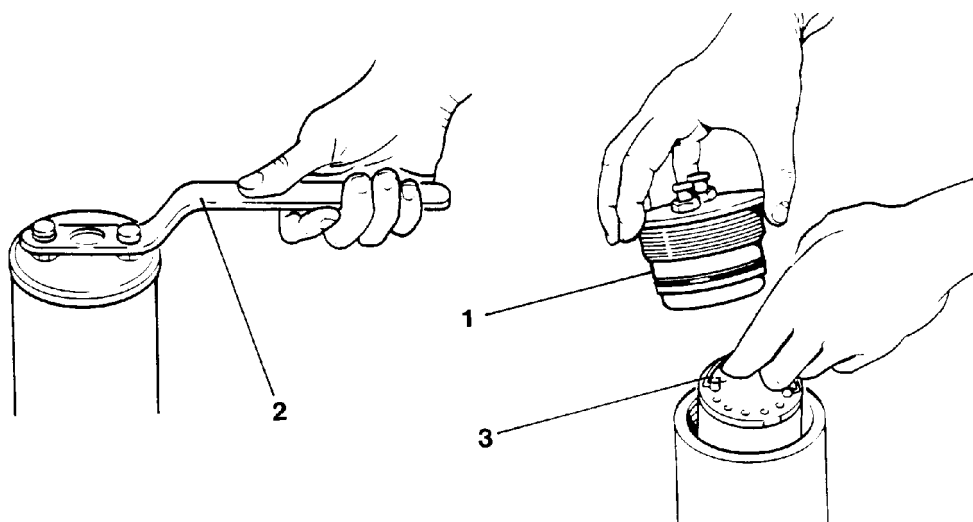

Fig. 32 Cartridge change
- On filters with **SECURUS** monitoring system unlock BNC plug of the coaxial cable by applying light pressure and turning in a counter-clockwise direction. Pull out BNC plug (see Fig. 32).
- Unscrew the filter head (1) with the special spanner (2) supplied with the unit. This tool has a recess to accommodate the BNC plug.